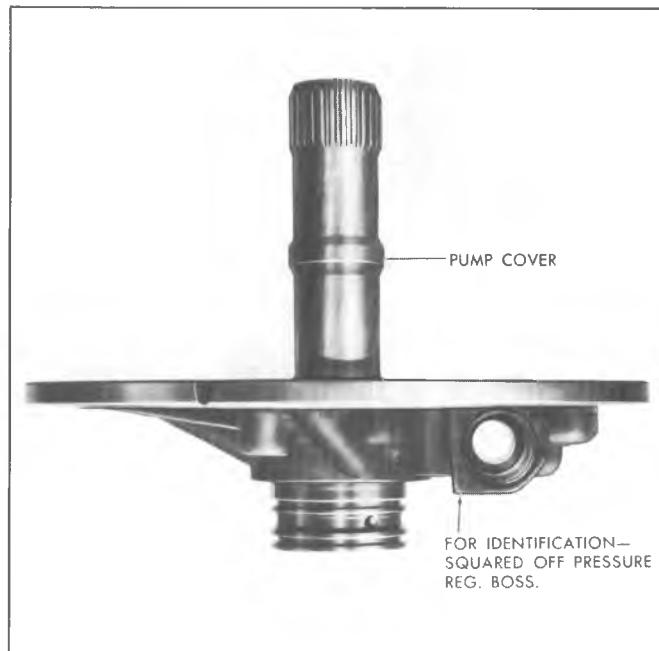

Fig. 7A-73C--Pressure Regulator Valve Identification
8. Remove retaining pin and bore plug from pressure regulator bore (Fig. 7A-71C).